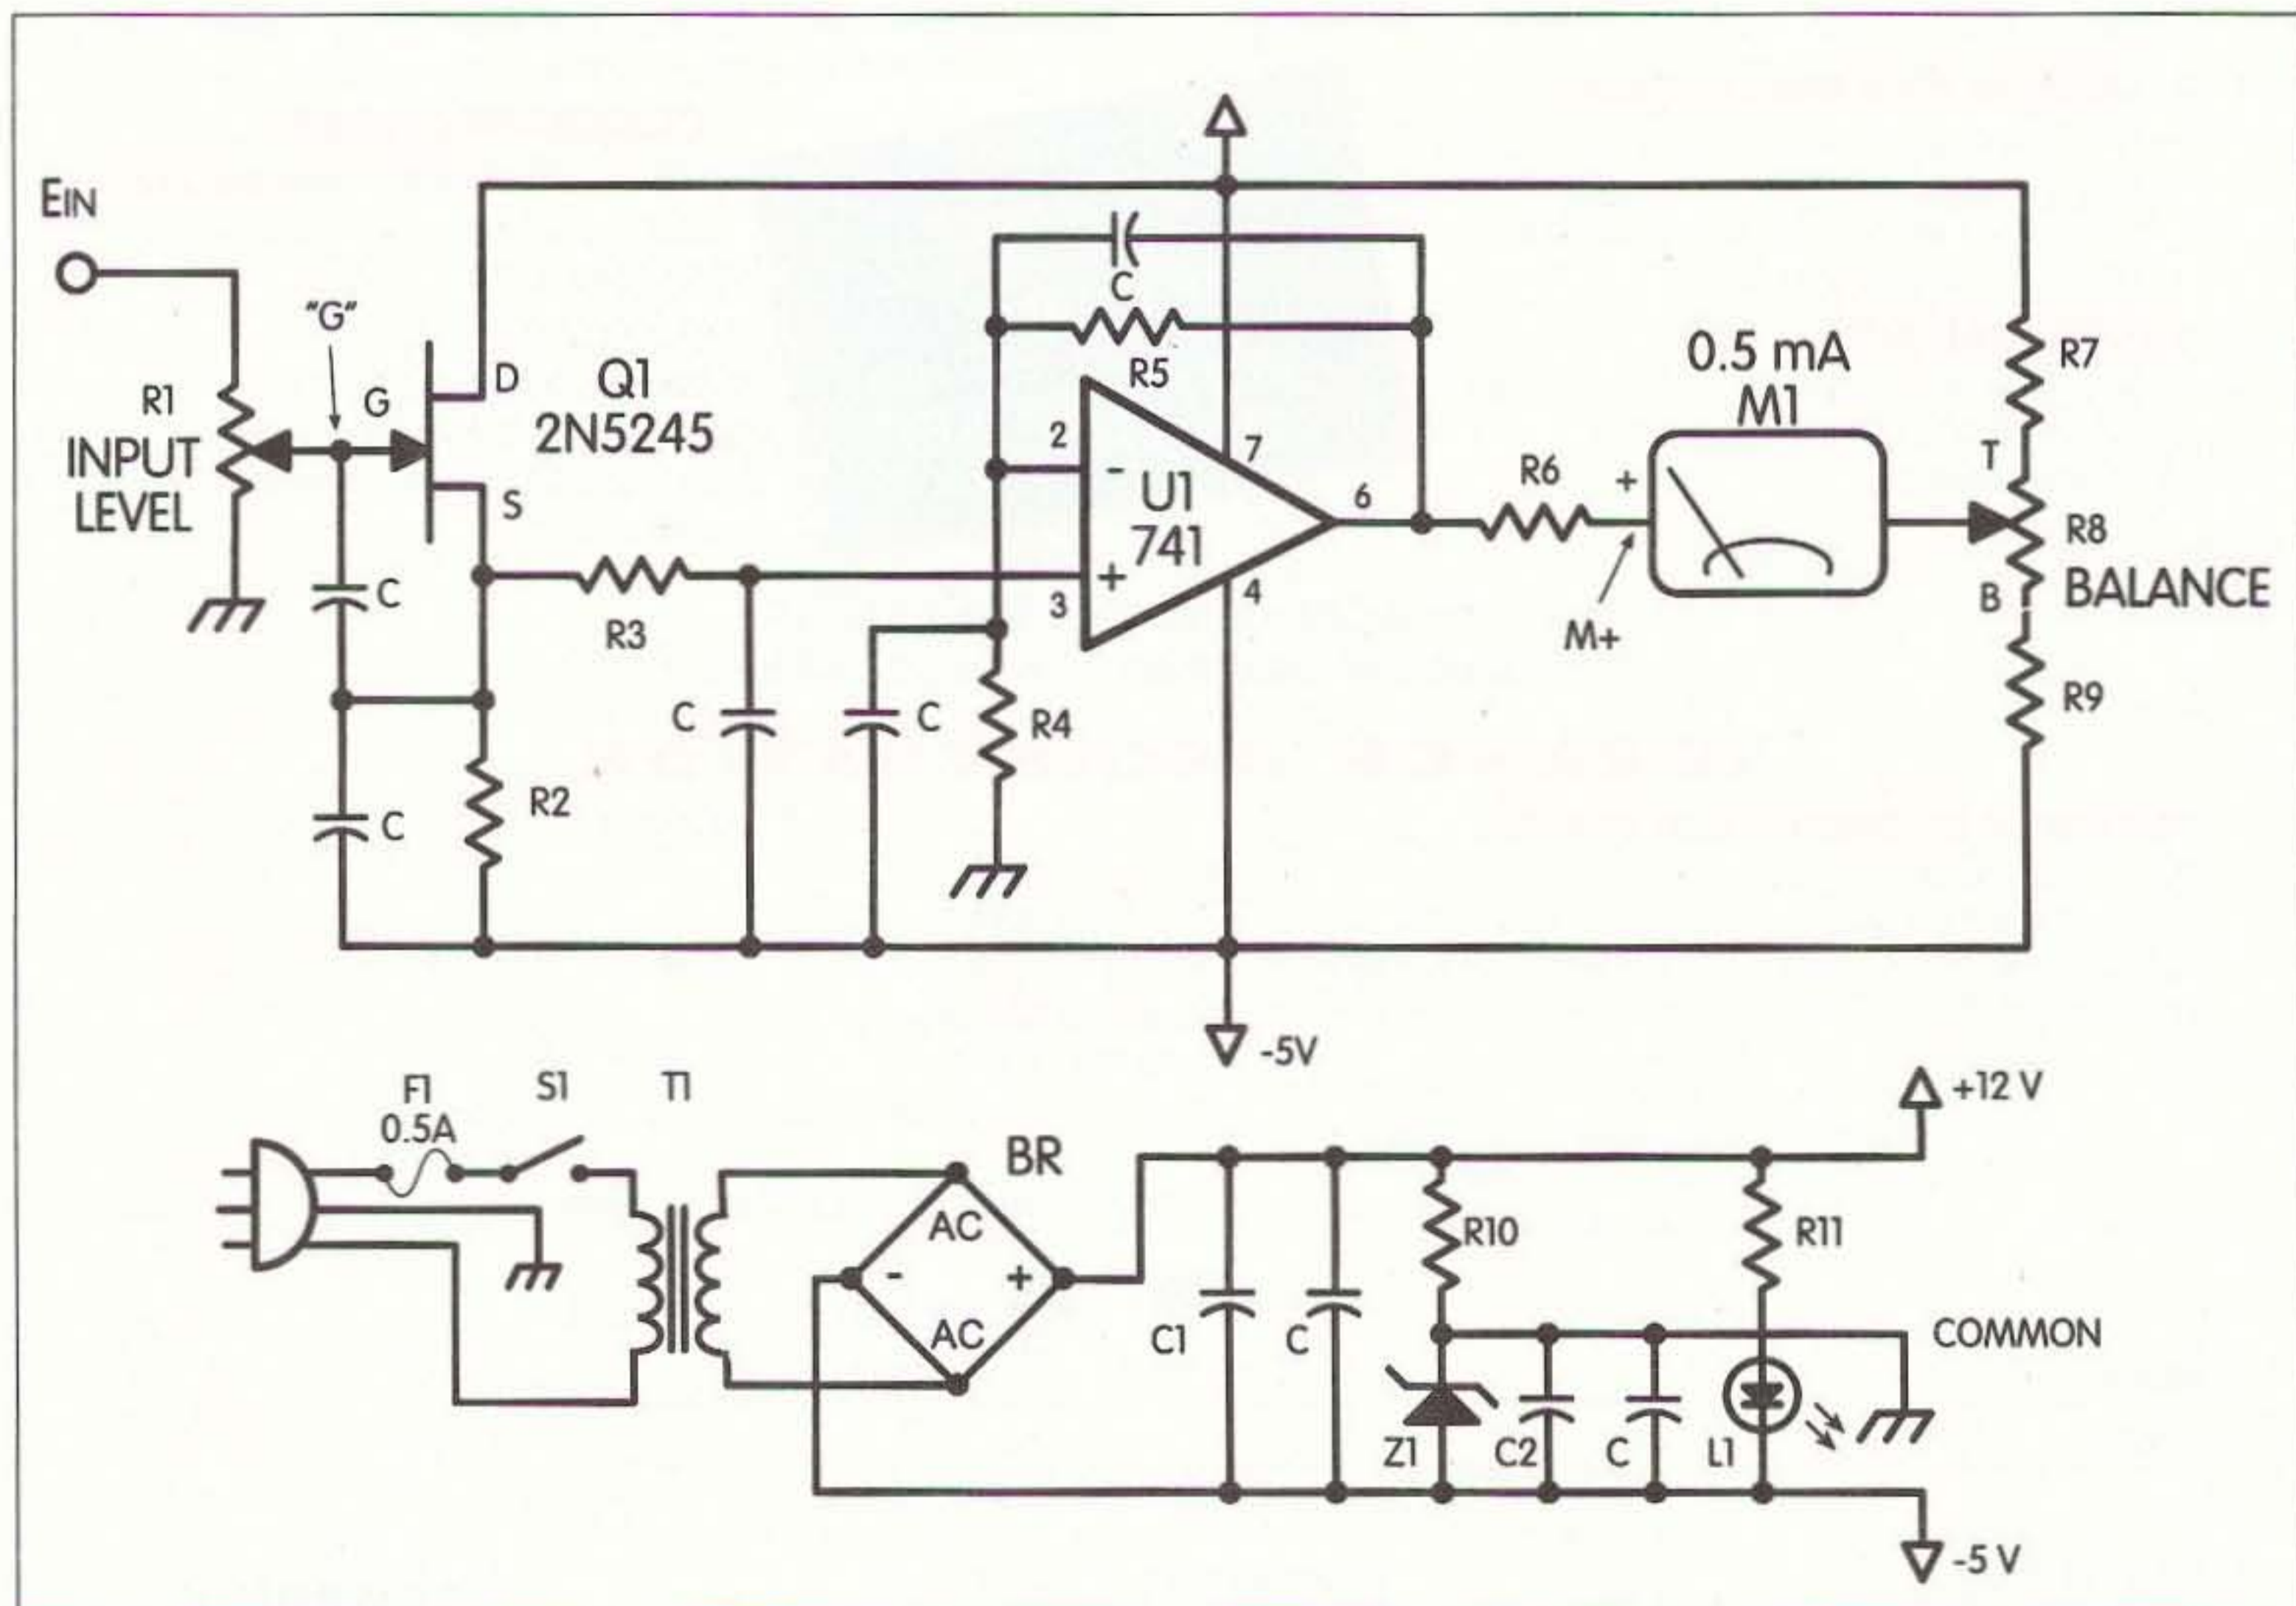

Fig. 2. Schematic diagram of the Analog Volt/Test Meter.
An LM741 op amp provides the foundation of the Analog Volt/Test Meter, as shown in Fig. 2. The input impedance of the LM741 is relatively low, requiring an FET input stage to increase the impedance value. However, the transfer curves of a JFET are nonlinear, which creates a nonlinear calibration response when a linear response is needed. To correct the situation and create a linear response, it is necessary to raise the op-amp gain sufficiently to allow operation over a very narrow portion of the FET curves. The resulting circuit response appears to be at least as linear as the meter scale markings. Any remaining nonlinearity in the FET response is transparent to the user.
- Many bypass capacitors have been used throughout the circuit. These are marked simply as "C" in Fig. 2.